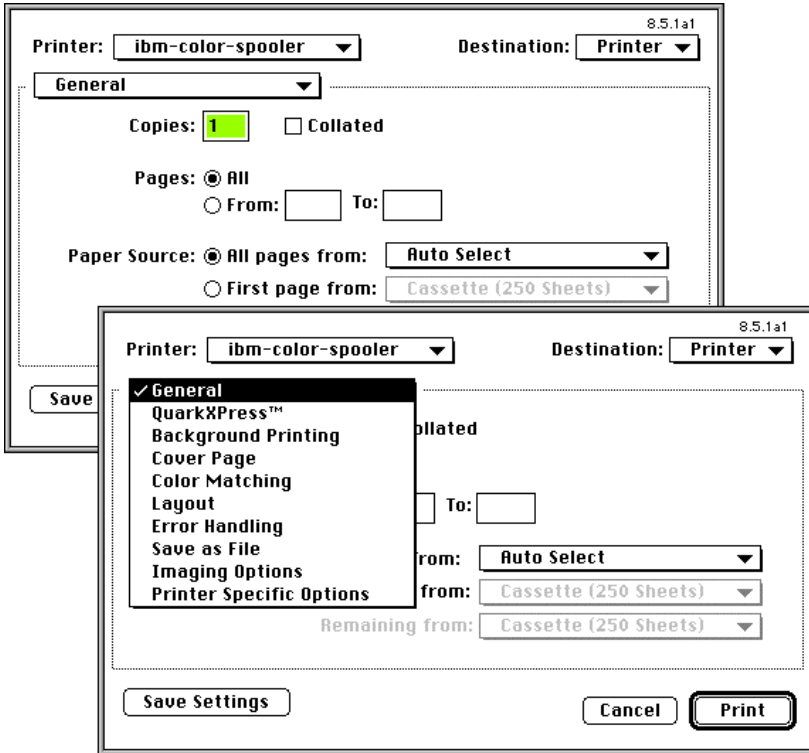
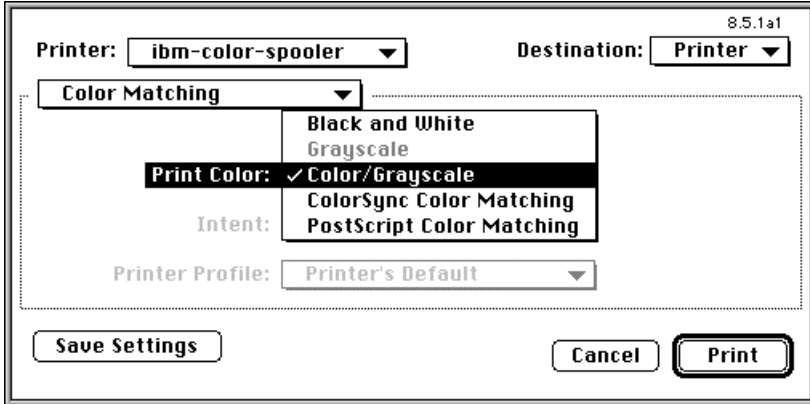
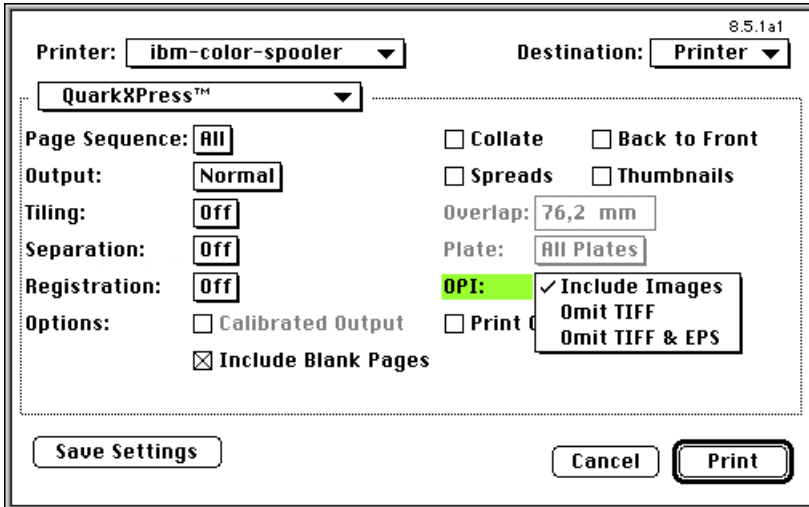

Fig. 30: Different windows in the print dialog
Fig. 31: Settings in the “Color Matching” window of the print dialog
Fig. 32: “QuarkXPress” window in the print dialog — OPI settings
There are different windows in the print dialog (in case you are using LaserWriter driver 8.4 or newer). These windows can be opened from a pop-up menu as shown in figure 30. There are two windows that are important for printing with ColorSync 2 XT, namely the “QuarkXPress” window (figure 32) and the “Color Matching” window (figure 31). They are both described below.
ColorSync 2 XT can use all Apple or Adobe LaserWriter 7 or LaserWriter 8 printer drivers. Please note that new releases of the Apple LaserWriter 8 version may contain two additional print options, namely **ColorSync Color Matching** and **PostScript Color Matching** (see figure 31). They invoke either the ColorSync system software or a PostScript Level II printer to perform color matching.
- So, make sure that you select the standard **Color/Grayscale** option as shown in figure 31.
ColorSync 2 XT supports printing to different print spoolers. If you are using the HELIOS EtherShare OPI 2.0 network software you can even shift the color matching process to your server before printing. For that purpose, you may change the default in the **OPI** pop-up menu in the “QuarkXPress” window and read appendix A 4: “About co-operation with EtherShare OPI 2.0”. Without the EtherShare OPI 2.0 version — even if you are using EtherShare OPI 1.2 — the standard setting would be **Include Images** as shown in figure 32.
Printing to a printer or spooler is only one option in the print dialog. The other one is printing to a PostScript file. The data in the PostScript file will be matched according to the current printer profile settings in the **ColorSync 2** dialog. Please remember to select **Color/Grayscale** in the “Color Matching” window to avoid system or printer driver color corrections (see figure 31).